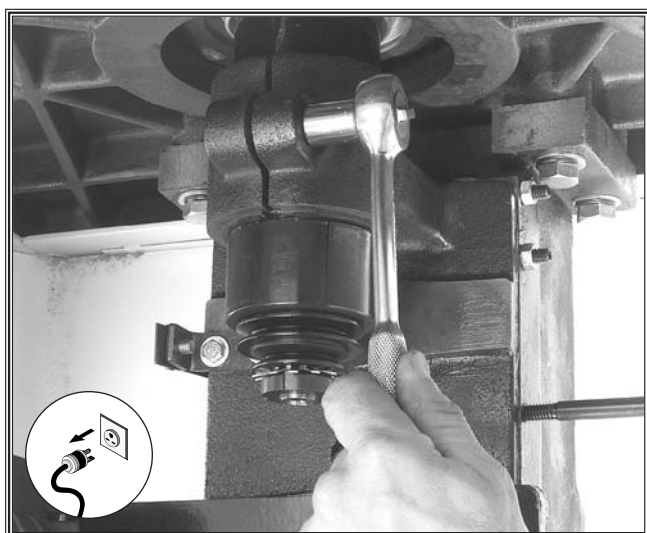

Figure 28. Loosening spindle cartridge bolt.
6. If the spindle pulley is not aligned with the motor pulley, loosen the bolt on the spindle slide that holds the spindle in place as shown in **Figure 28**.